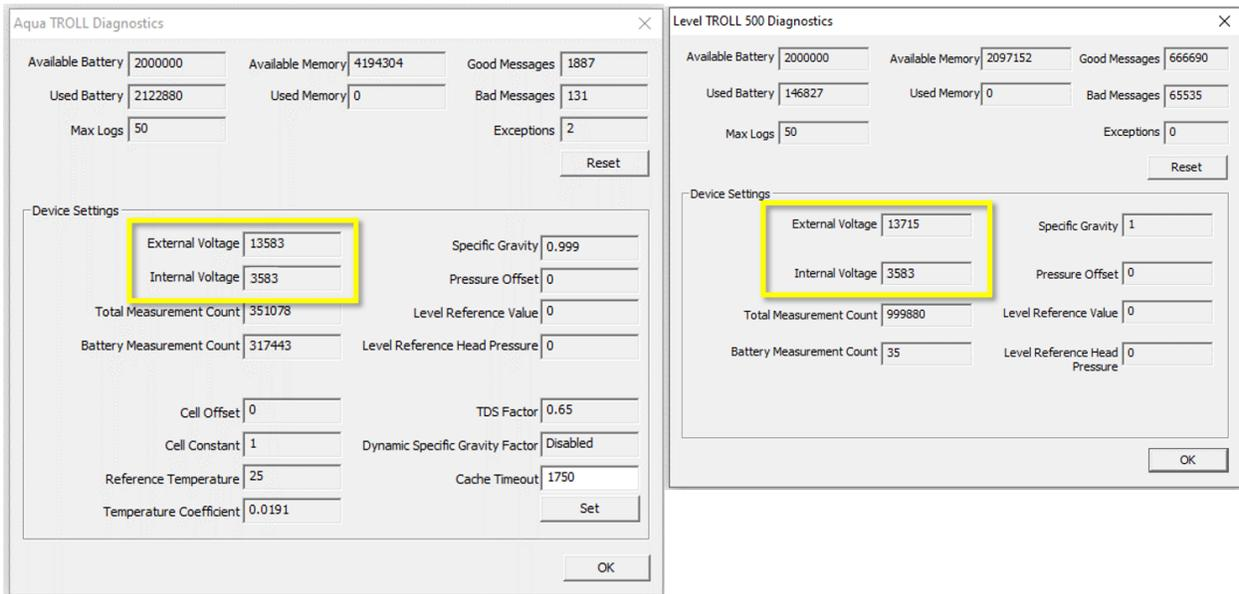

Figure 9. Aqua TROLL (left) and Level TROLL (Right) Diagnostics Window to Verify External & Internal Voltage Levels
2. In the **Diagnostics** pop-up window, monitor and verify the **External Voltage** and **Internal Voltage** under the **Device Settings** section for each TROLL (Figure 9). In Figure 9, the Aqua TROLL Diagnostics is on the left and the Level TROLL Diagnostics is on the right.